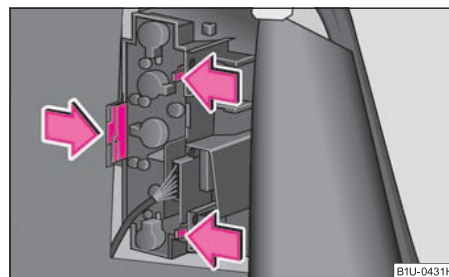

Fig. 185 Luggage compartment: Light bulb holder
- Press off the catches in the direction of arrow ⇒ fig. 185 and take out the lamp holder. ▶